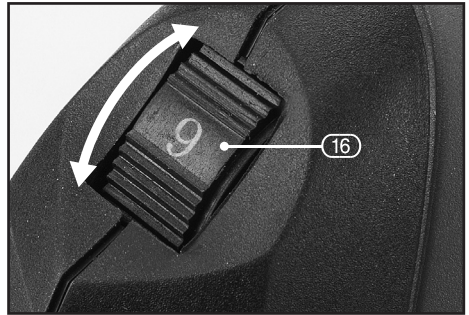

FIG.4
8.1 BLADE INSTALLATION AND REPLACEMENT – FIGS. 4 – 5
9.2 VARIABLE SPEED ADJUSTMENT – FIG.4